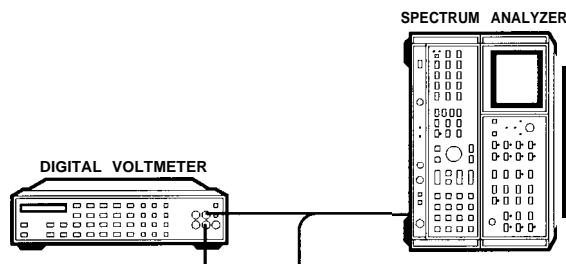

Figure 3-78. 50 MHz Voltage-Tuned Oscillator Adjustments Setup
1. Position Instrument on right side as shown in Figure 3-78 and remove bottom cover. Remove All 50 MHz Voltage-Tuned Oscillator and place on extenders.
21. Adjust All SHAPING ATTN A11R42 for VTO indication of 22.000 MHz ±0.005 MHz. See Figure 3-78 for location of adjustment.
23. Adjust All SHAPING OFFSET A11R17 for VTO frequency indication of 21.250 MHz ±0.005 MHz. See Figure 3-78 for location of adjustment.